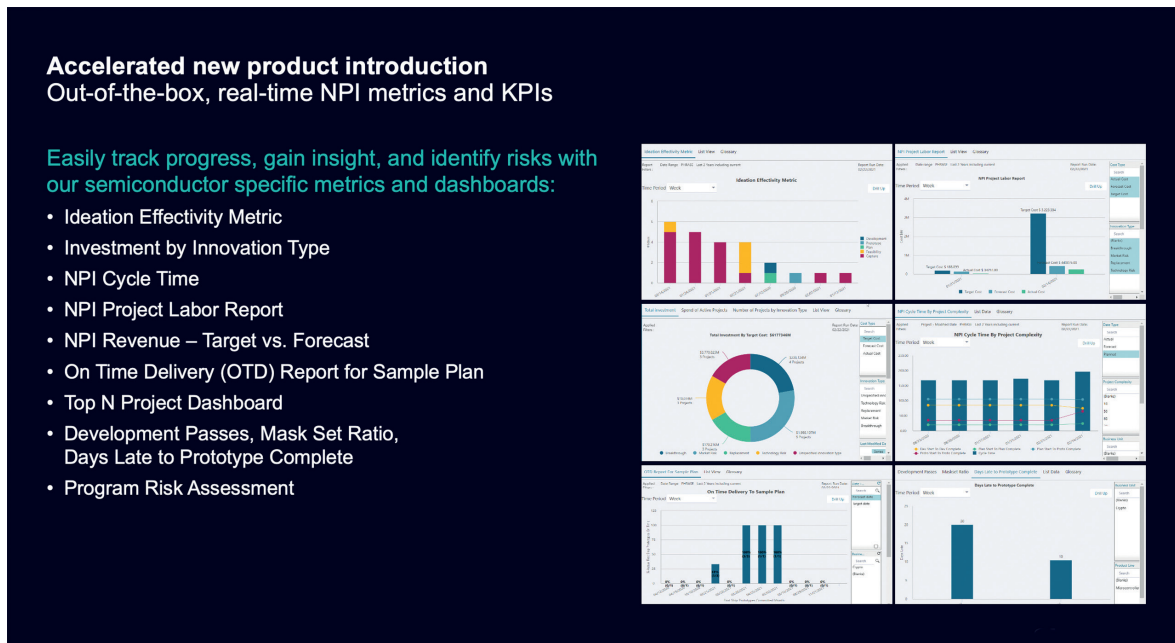

Figure 9. Accelerating NPS with NPI metrics and KPIs.
- Ideation efficiency metric (figure 9): The dashboard shows how many ideas move from ideation to project planning and other project phases. See how ideas are distributed across various maturity phases of an NPI project, based on selected criteria (timeframe)
- Investment by innovation type (figure 9): The dashboard shows how the company deploys investments. This report gives an overview of innovation and breakthrough projects versus continuous improvement projects. Categories include technology risk, breakthrough, replacement and market risk